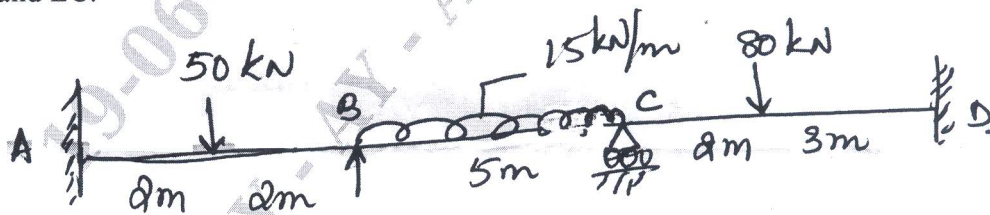

Fig Q10
- 10 Analyze continuous beam shown in Fig Q10. Using moment distribution method. Draw BMD and EC.